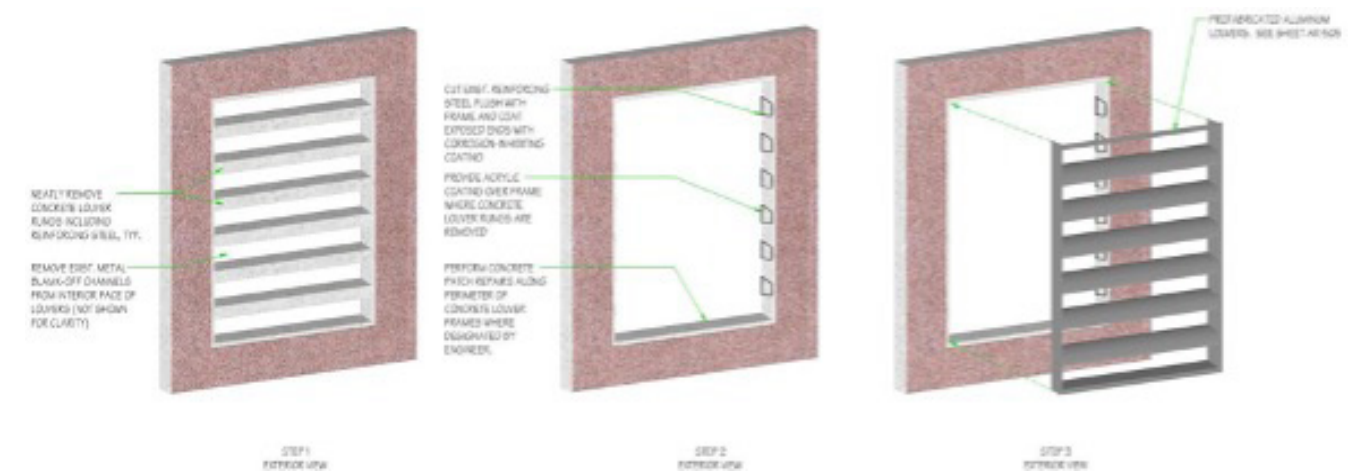

Figure 2 – Louver Rung Replacement
4. Level 4 Repairs: Remove rungs of concrete louvers leaving the concrete “frame” in place. Grind surfaces where rungs are removed flush with frame. Install prefabricated aluminum louvers consisting of frame covers and rungs (See Figure 2 below). Replacing the concrete louvers with more durable materials eliminated the need for periodic conventional concrete repairs. The need for future repairs and maintenance would also be drastically reduced.